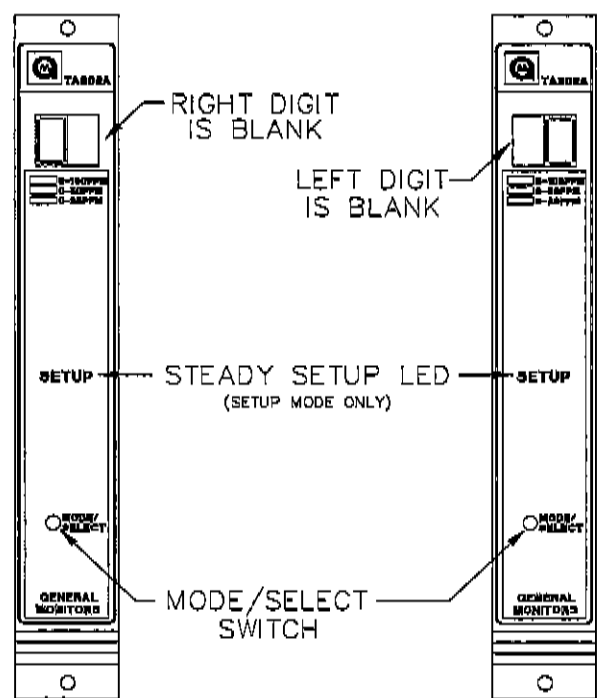

Figure 14
- **This option applies to the Setup Mode only:** If the password option is enabled, the right digit of the display will be blank and a **0** will appear in the left digit on the display (figure 14). If the number is incorrect, press the Mode/Select switch until the correct number is displayed, then wait about five seconds.
The left digit of the display will be blank and a **0** will appear in the right digit on the display (figure 14). If the number is incorrect, press the Mode/Select switch until the correct number is displayed, then wait about five seconds. If the password is correct the user will proceed with the inhibit option. If the password is incorrect the user will not be able to proceed and unit will return to the normal operating mode. Once in the operating mode the user may attempt to re-enter the Setup Mode. The factory default password is **00**.